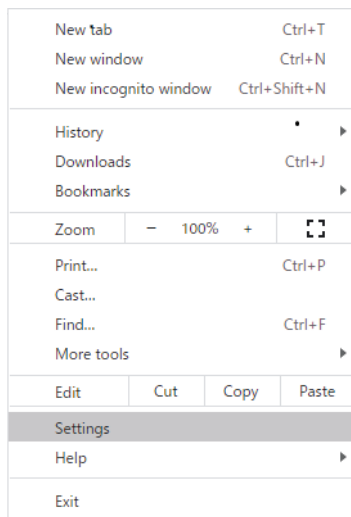

Figure 123. Google Chrome™ settings.
1. Select **Settings** from three dot leader icon at the top right of the browser (Figure 123).